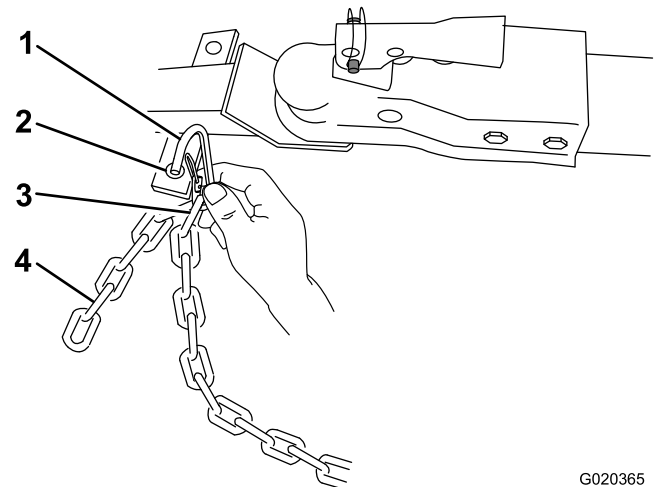

Figure 28
Note: For models 68007 and 68008, connect the connecting links to the appropriate links in the safety chain (Figure 28). If the excess chain hangs too low and touches the ground, connect it again to the connecting link to raise it away from the ground.
3. Connect each length of chain to the safety chain mounting point on the tow vehicle with the connecting links (Figure 28).